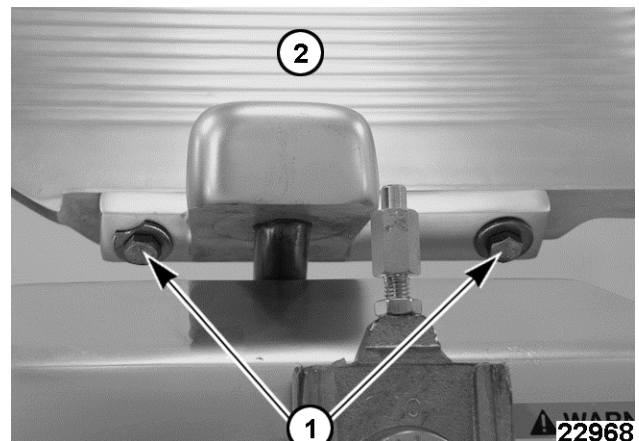

Fig. 34
- A. Loosen the gauge plate bolts (1, Fig. 34) and slide gauge plate (2, Fig. 34) into position.